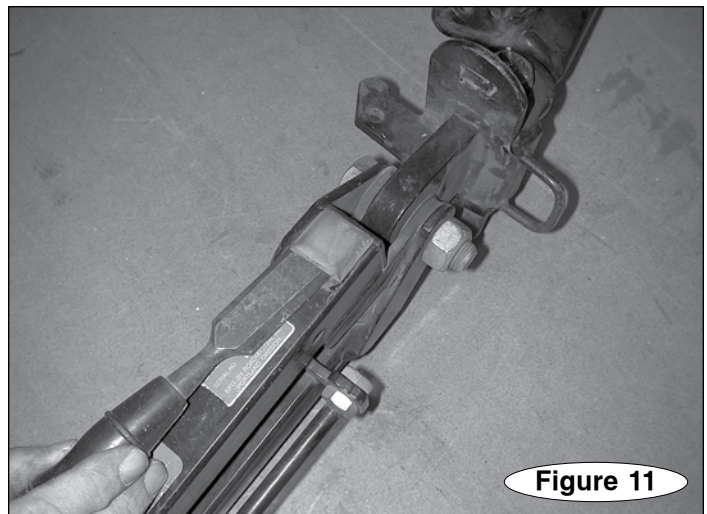
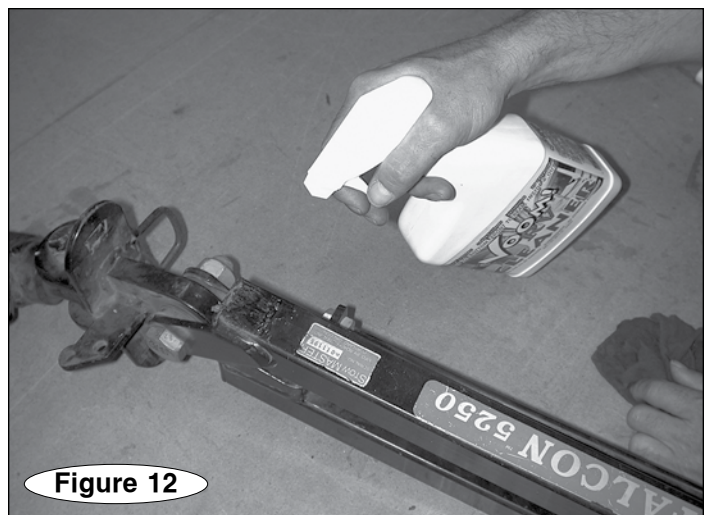

Figure 11
Figure 12
8. With the putty knife or scraper, pry off the rubber "bump ons" (Figure 11). Remove any residue from the top of the tow bar arm (Figure 12).